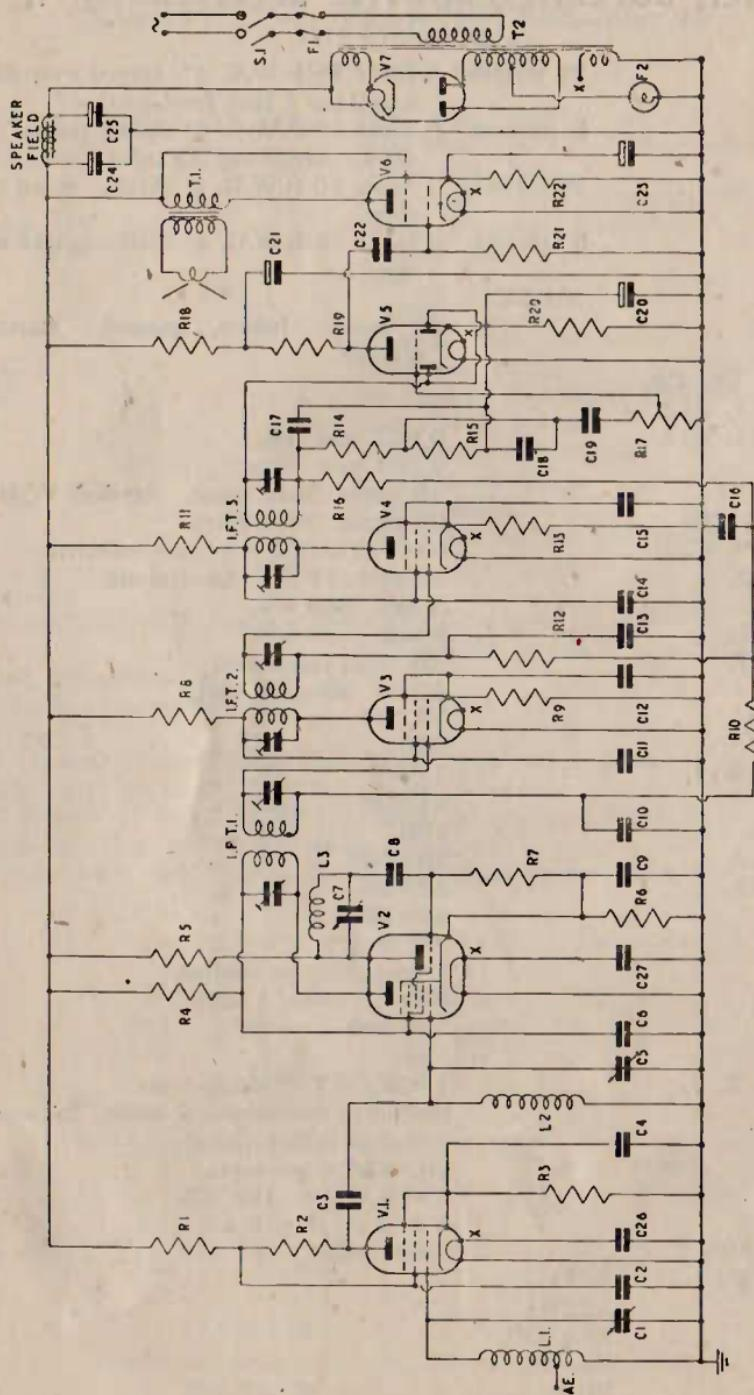

FIG. 19. V.H.F. Superheterodyne Receiver.
V.H.F. SUPERHETERODYNE RECEIVER—Fig. 19.